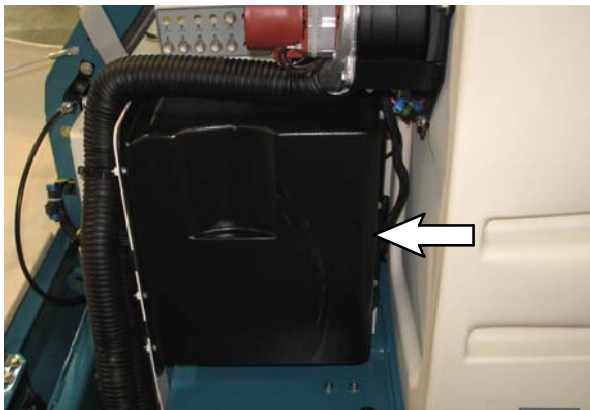

FIG. 3
5. Remove the cover from the control box. Set the hardware and cover aside. Refer to Fig. 3.